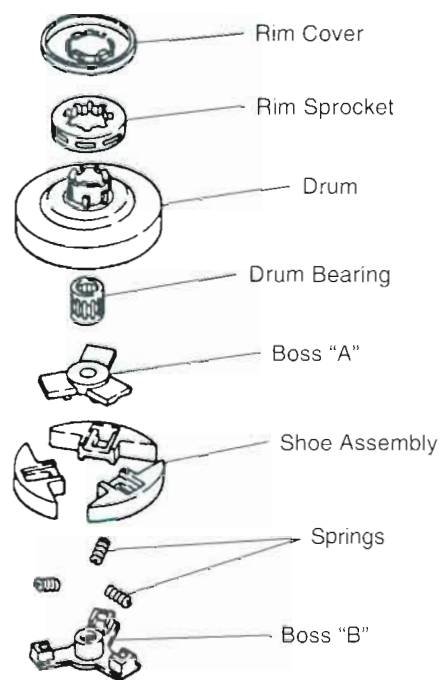

Figure 6.9 Typical Clutch Assembly
STEP 6. Remove the shoe assembly, clutch drum, and bearing (Figure 6.9).